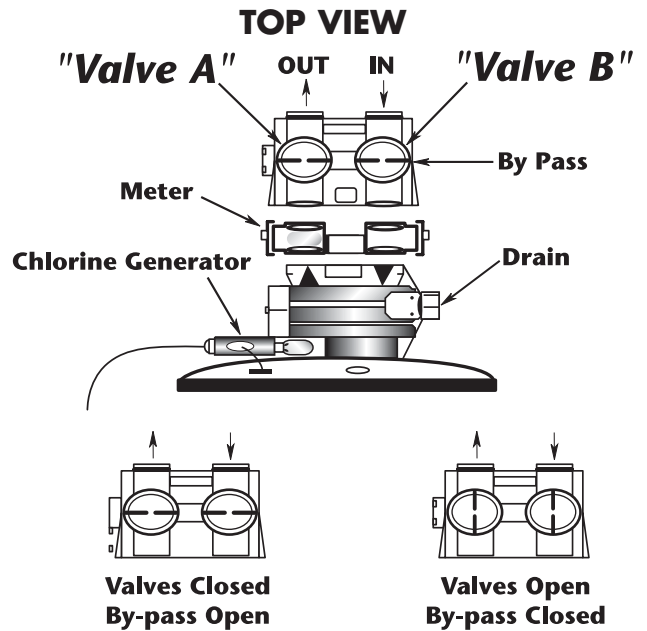
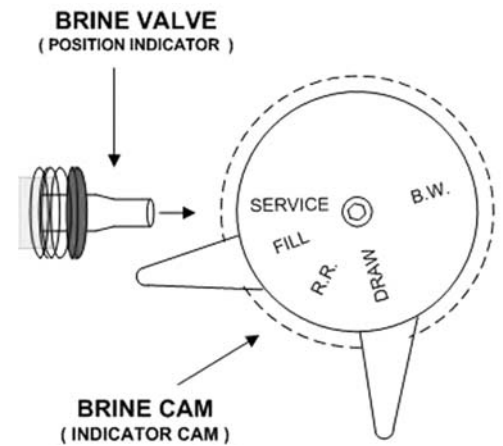

FIGURE 3
FIGURE 5
2. Install the chlorine generator on the brine valve (**Fig. 3**) by pulling the brine clip, inserting the generator and resealing the clip. Plug generator's electrical end into receiving adaptor in the back plate. Do not install brine line at this time.
3. Install meter and bypass, if ordered, (**Fig. 3**) using silicone grease provided on "O" Rings. Extra "O" Rings have also been provided in case a tear occurs during installation.
NOTE: Meter should be installed between the control valve and the bypass with the meter "turbine" being installed on the outlet side of the control valve (**Fig.3**).
- Notice on the casting, the inlet and outlet markings, make sure the incoming water is plumbed to the inlet and outlet is plumbed to service (**Fig. 3**). Your water softener must be installed with a bypass valve. If your conditioner is not equipped with one, make a provision in the plumbing system for a bypass to be installed.
- To "bypass" your water conditioner, turn valves A & B to the bypass open position (**Fig. 3**). This will supply unconditioned water to the house.
- After installation is complete, rotate bypass handles to bypass mode (*see "Valves Closed" in Fig.3*).
1. With the softener in the bypass mode ("**Bypass valve," Fig. 3**) and the control valve in normal operation where the display shows either the time of day or the gallons remaining, manually add 5 GALLONS of water to the regenerant tank.
2. Press and hold the **REGEN** button until the motor starts (3 seconds). Release button. It takes approximately 90 sec. to reach the backwash position. **See "Start an immediate extra cycle" section 4, page 10.** Once unit has reached the backwash position, unplug the transformer so that the valve does not cycle to the next position. Open the inlet handle ("**Valve B," Fig. 3**) of the bypass valve **very slightly** allowing water to fill the tank **slowly** in order to expel air. Once air is expelled and water is running at drain, open inlet to control.
8. Once the cycle operation has been verified. Place bypass valve in the normal operating mode ("**Valves Open,**" **Fig. 3**) by opening the outlet bypass handle.
2. With the softener in the bypass mode ("**Bypass valve,**" **Fig. 3**) and the control valve in normal service position (**Fig. 5**), manually add 5 GALLONS of water to the regenerant tank.
NOTE: Fig. 5 depicts the valve in the service position. It will take approximately 90 seconds to reach the backwash position.
4. Once unit has reached the backwash position, unplug the transformer so that the valve does not cycle to the next position. Open the inlet handle ("**Valve B,**" **Fig. 3**) of the bypass valve **very slightly** allowing water to fill the tank **slowly** in order to expel air. Once air is expelled and water is running at drain, open inlet to control. Let water run for 5 minutes or until clear.
7. Manually index control to the Rapid Rinse position (RR). Check drain line to be secure and that drain can receive the flow of water. There should be a rapid flow to the drain. Unplug transformer to keep the valve in the RINSE position. Allow to run until clear and without air. While the unit is rinsing, load the brine tank with water softener salt.
10. Once the cycle operation has been verified, place bypass valve in the normal operating mode ("**Valves Open,**" **Fig. 3**) by opening the outlet bypass handle.